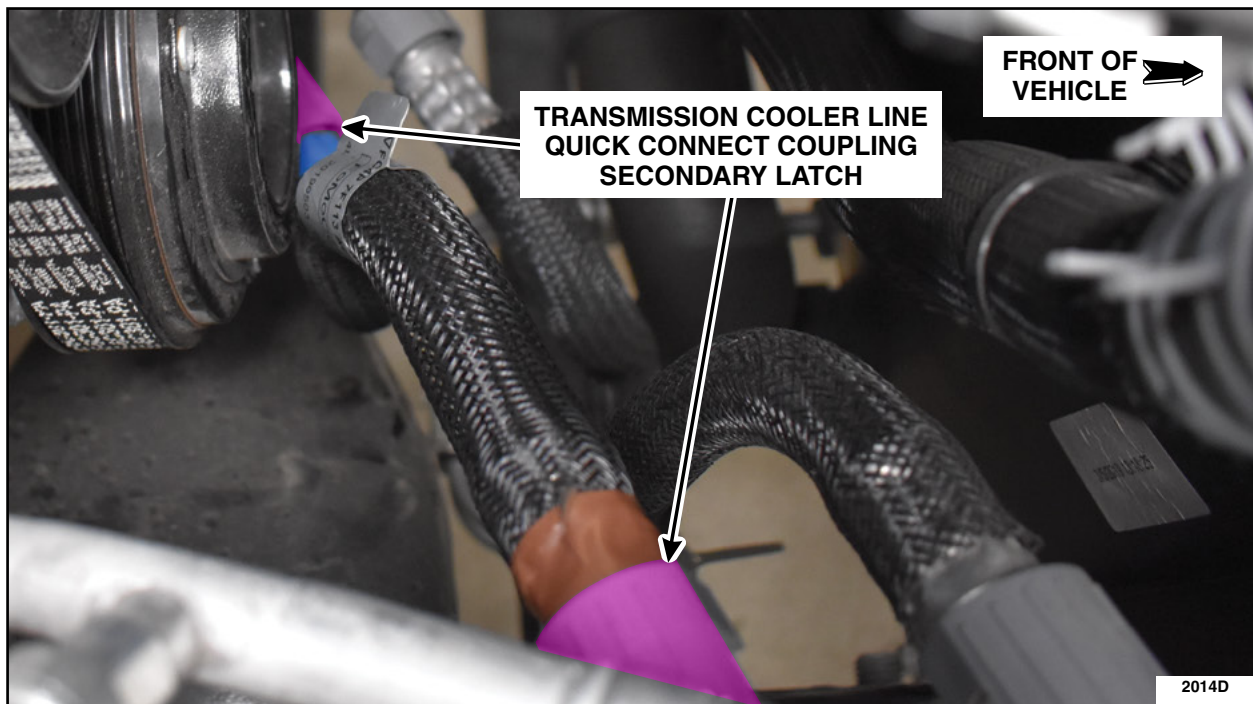

FIGURE 5
6. Remove the transmission cooler line quick-connect coupling secondary latches. See Figure 5.